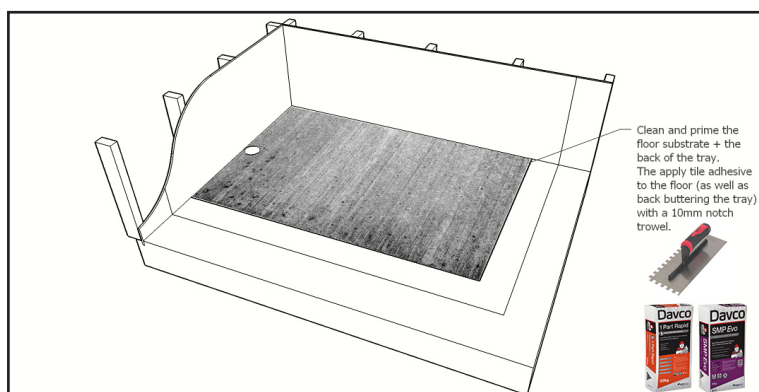

Fig. 3.2: Adhesion of the base using a Cement based, polymer fortified adhesive and a notch trowel.
**b)** Bed the Tile tray using a cement based, polymer fortified adhesive. Ensure to both notch and back butter. If the floor is not level, use extra adhesive or levelling compound to compensate for variation. (See Fig. 3.2)